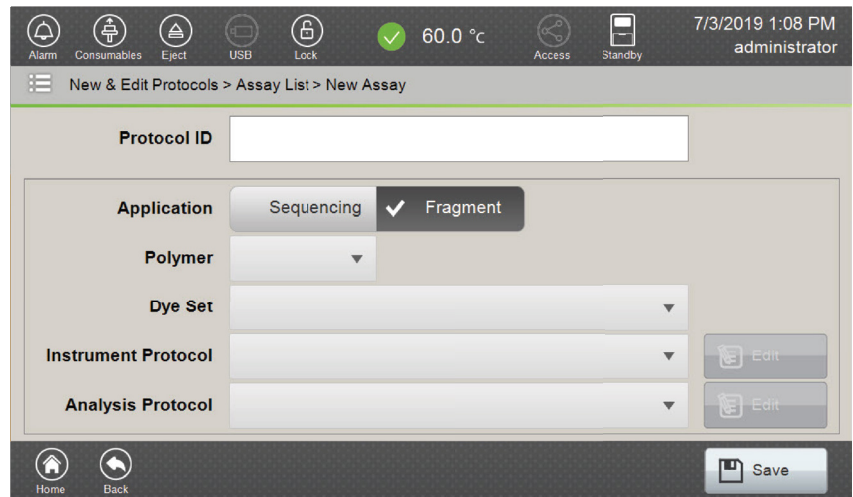

Figure 141. 'New Assay' screen.
2. Select **Create** in the footer to open the 'New Assay' screen (Figure 141).